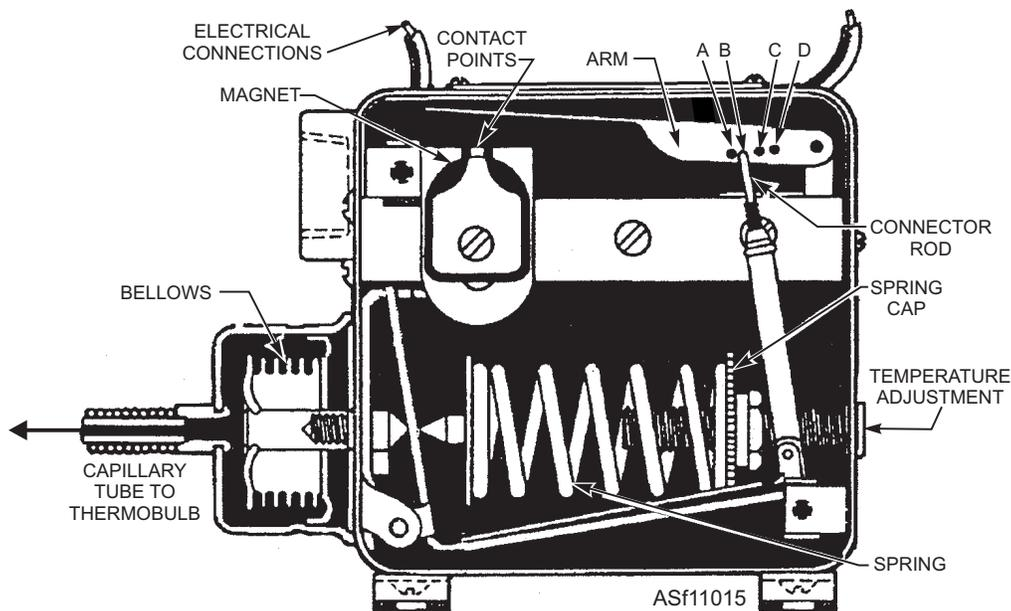

Figure 11-15.—Thermostat.
**THERMOSTAT.**—A thermostat is a device that automatically regulates temperature. Thermostats used on mobile air-conditioners, similar to the one shown in figure 11-15, consist of a capillary tube filled with a volatile liquid, a bellows, and a set of electrical contacts.